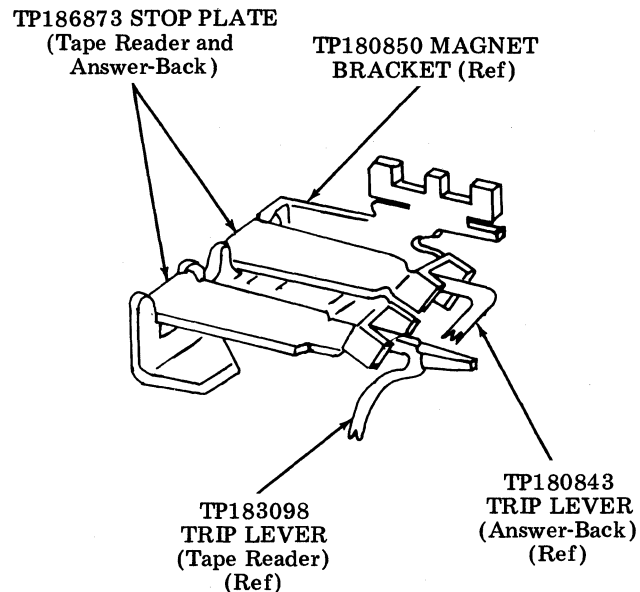

Figure 8 - Stop Plate for Tape Reader and Answer-Back Trip Levers
3.05 The TP186873 stop plate is for ASR sets without tape reader trip magnet option, and for KSR and ASR sets without answer-back trip magnet option (Figure 8). Following are the installation procedures for the stop plate:
- (1) The stop plate prevents the TP183098 tape reader clutch trip lever or the TP180843 answer-back trip lever from operating when either the reader trip or answer-back magnets and associated armature parts are absent.
- (2) The stop plate is present only when there is no magnet with associated parts and may be replaced by one of three different voltage type magnets for reader or answer-back operation. The voltages of the magnets are 24 volts dc, 48 volts ac or dc, or 115 volts ac.
- (3) The TP186873 stop plate is installed in either the reader trip lever magnet position or answer-back position or both (Figure 8).